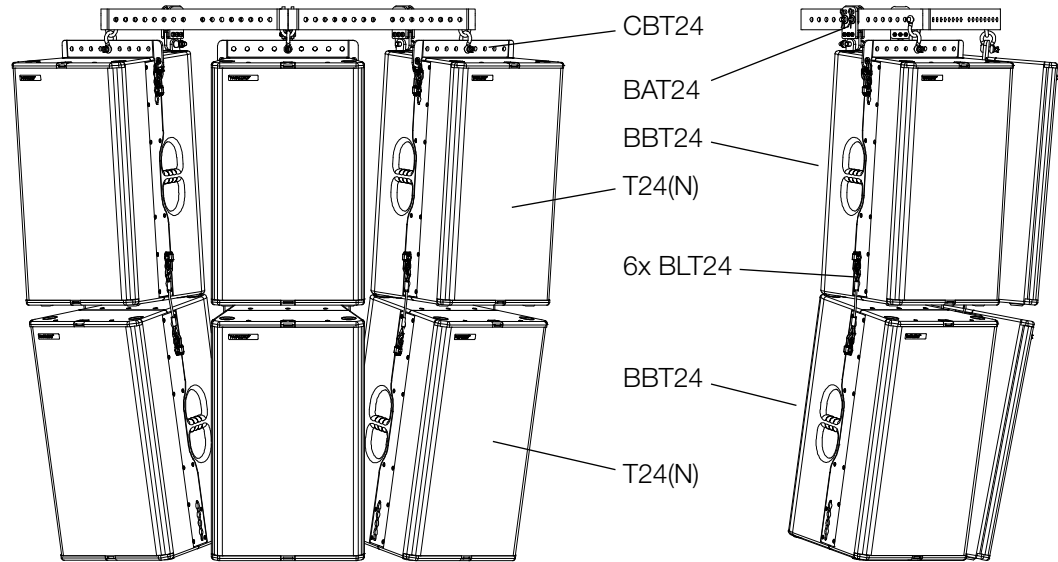

Figure 3.21 - Standard variant
The standard variant has established itself in which six T24(N) loudspeakers are used with three CBT24 cradle bar for flying, six BBT24 brackets, three BAT24 adapter and six BLT24 Boxlink connector cables. (See figure 3.21)